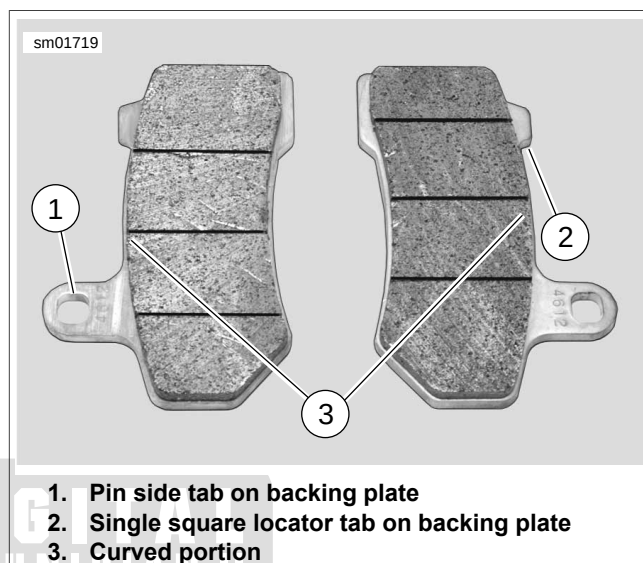

Figure 1-33. Brake Pad Orientation
- See Figure 1-33. Install **new** brake pads using the same orientation as the pads previously removed. Curved portion of pad must face upward. Insert square locator tab first and then pivot pin side tab upward until pad seats.